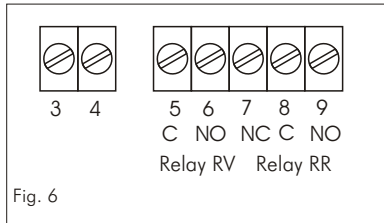

Fig. 6
**2** - Connect the loads to the relay outputs according the following table (fig. 6):
- terminal 5 = C relay green (RV)
- terminal 6 = NO relay green (RV)
- terminal 7 = NC relay red (RR)
- terminal 8 = C relay red (RR)
- terminal 9 = NOA relay red (RR)